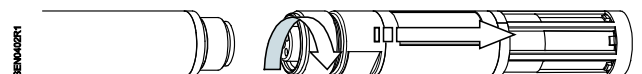

Figure 2.
3. Hold the sensor's mounting tube on the housing base securely and unscrew the old sensor tip from it. (See Figure 2.)